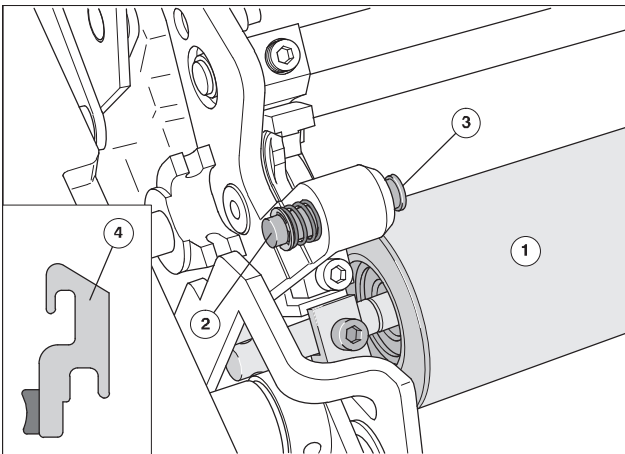

Fig. 24 Inserting the dampening unit gaskets
After cleaning and after the installation of the dampening form roller (Fig. 24/1) and the dampening distributor, the gaskets (Fig. 24/4) must be inserted. The plastic gasket shows towards the roller body, the beveled side of the gasket holder towards the plate cylinder.
1. Push the gasket (Fig. 24/4) between the swiveling lever of the dampening form roller and the end face of the dampening form roller downwards.
2. Press the spring bolt (Fig. 24/2) on the side frame of the dampening system towards the press center.
3. Hook the recess on the gasket holder in the bolt (Fig. 24/3) you have pressed out, and press it slightly down.
4. Release the spring bolt (Fig. 24/2).